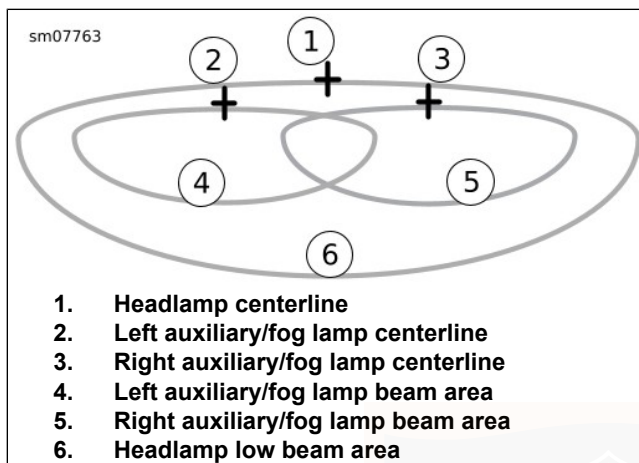

Figure 100. Headlamp Pattern: LED Type with Auxiliary/Fog Lamps
4. See Figure 100. Mark the auxiliary/fog lamp horizontal and vertical centerlines (2, 3) on the wall.
7. Turn on the headlamp low beam and cover both the headlamp and the right auxiliary/fog lamp. Adjust the left auxiliary/fog lamp so the entire high intensity zone (4) is below the centerline as shown in Figure 100.